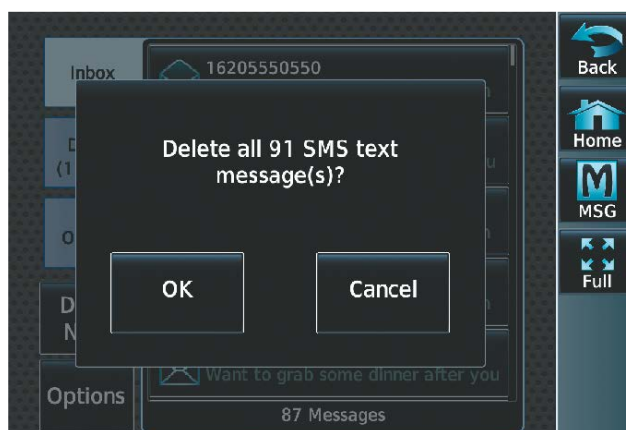

Figure 8-93 Confirm Deletion of Messages
- 3) Touch the **Delete All Messages** Button. A confirmation screen is displayed as in Figure 8-93.